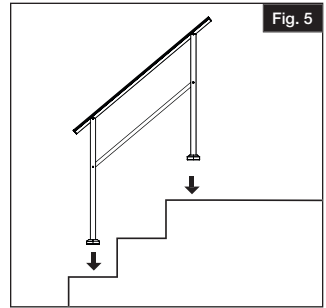

Fig. 5
- Position your assembled panel on steps to location as desired (Fig. 5).